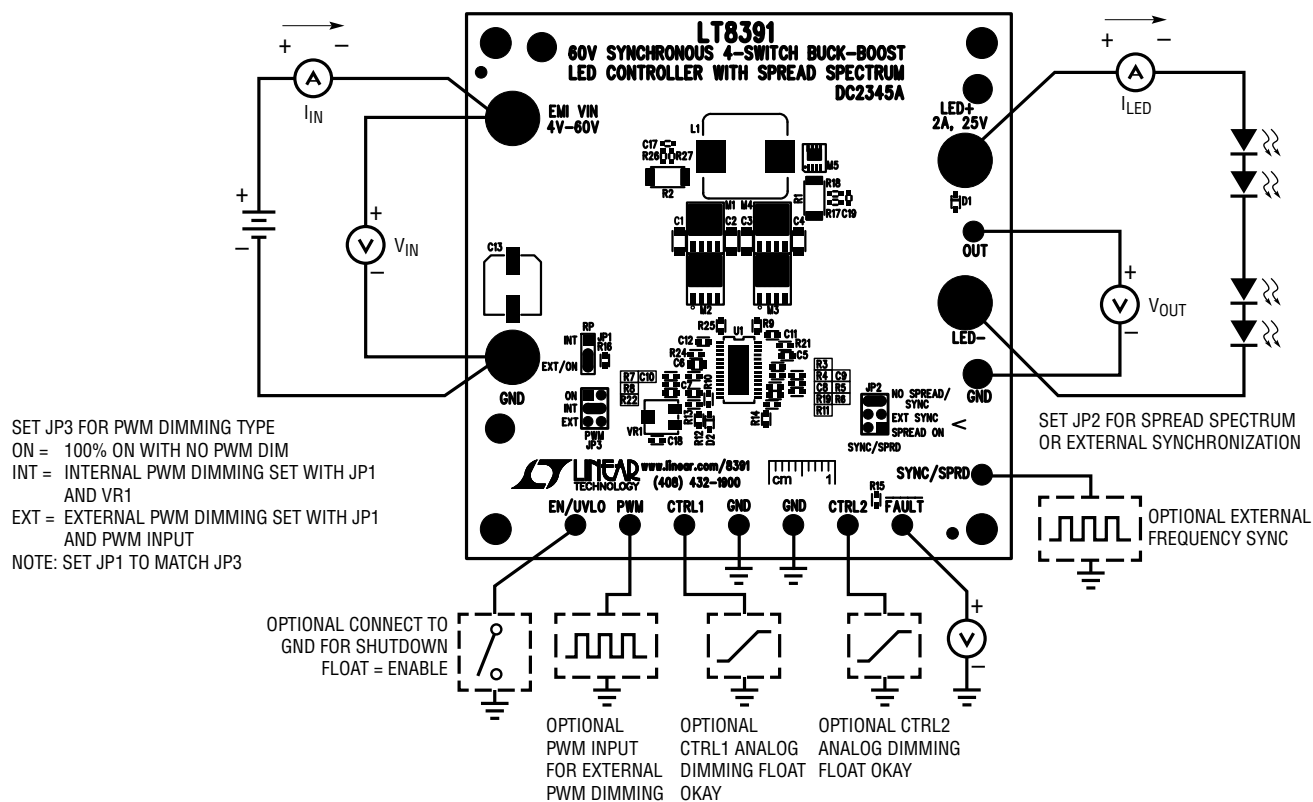

Figure 1. Test Procedure Setup Drawing for DC2345A
1. With power off, connect a string of LEDs that will run with forward voltage less than or equal to 25V (at 2A) to the LED+ and GND banana jacks on the PCB as shown in Figure 1.